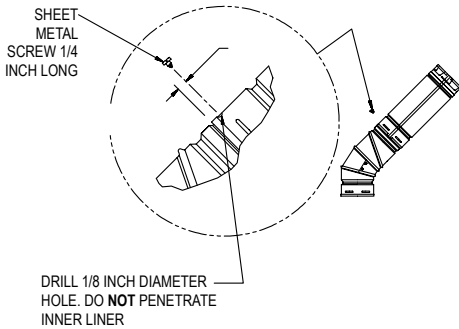

Figure 19
2. Connections. In addition to twist locking the elbows, the connection may be further secured by using sheet metal screws at the joint where the male and female parts overlap, provided that the screws **DO NOT** penetrate the inner liner as shown in **Figure 19**. One screw per joint is normally sufficient. Use #8 Pan Head sheet metal screws which are no longer than 1/4 inch. Wall Straps must be